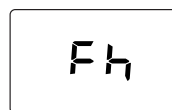

fig. 7- Vent with fan off
- In the next 280 seconds, the venting cycle continues with the fan off (fig. 7).